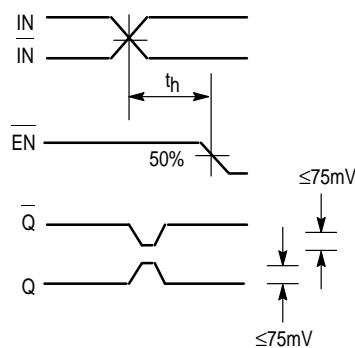

Figure 2. Hold Time
6. The hold time is the minimum time that EN must remain asserted after a negative going IN or a positive going IN to prevent an output response greater than  $\pm 75$  mV to that IN/IN transition (see Figure 2).